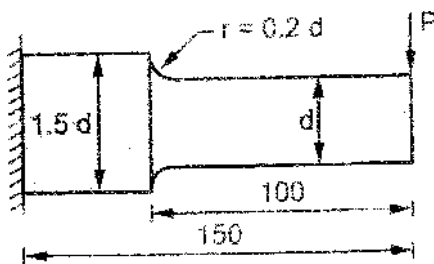

Fig. 2
6. A cantilever beam made of cold drawn steel 40C8 ( $S_{ut} = 600 \text{ N/mm}^2$  and  $S_{yt} = 380 \text{ N/mm}^2$ ) is shown in Fig. 2. The force  $P$  acting at the free end varies from  $-50 \text{ N}$  to  $+150 \text{ N}$ . The expected reliability is 90% for which the reliability factor is 0.897. The surface finish factor and size factor are 0.77 and 0.85 respectively. The notch sensitivity at the fillet is 0.9 and theoretical stress concentration factor is 1.44. If the factor of safety is 2, determine the diameter 'd' by using modified Goodman diagram. 16